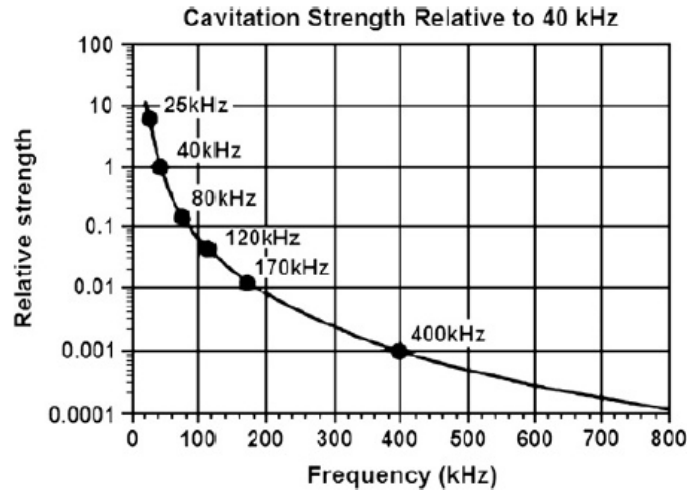

FIGURE 6.17 Cavitation strength as a function of frequency.
- (1)
- At low ultrasonic frequencies, cavitation is very strong and dominates the cleaning process when compared with acoustic streaming (1)
- See Figure 6.17 – cavitation strength vs. frequency (1)